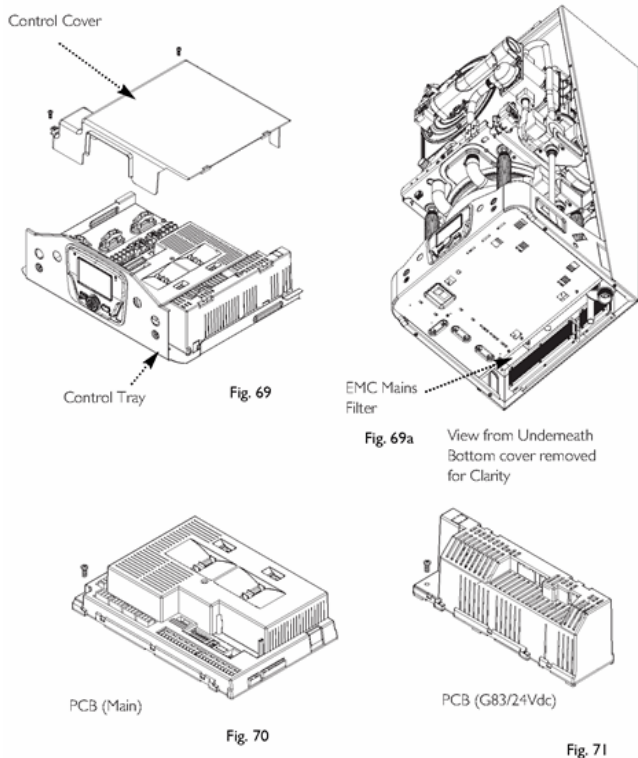

Fig. 69 - Fig. 71
14.17 PCB (G83/24Vdc Power Supply) (Figs. 69 & 71)